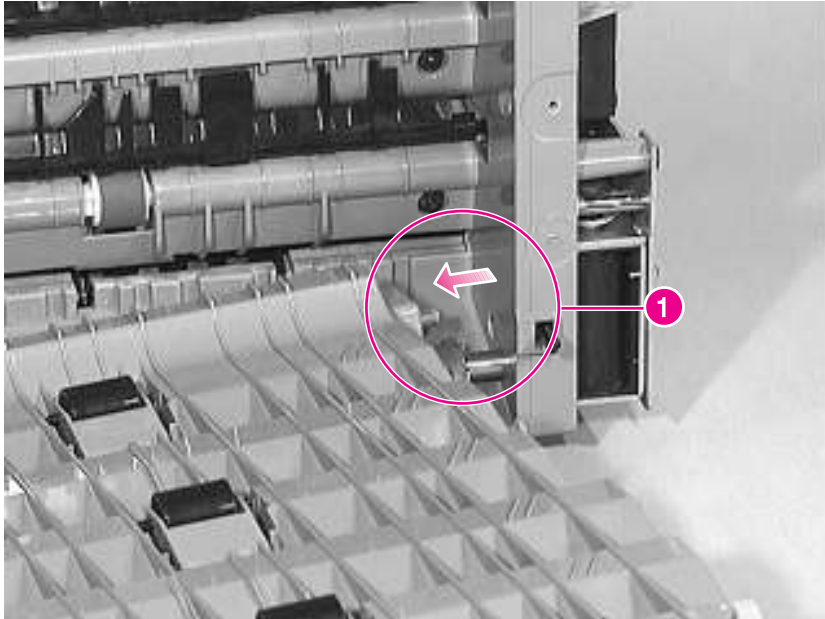

Figure 6-128 Right Door Assembly (Paper Path Cover) (4 of 5)
- 3** Release the plastic pin on the right end, and remove the paper path cover as shown in figure 6-128 (callout 1).